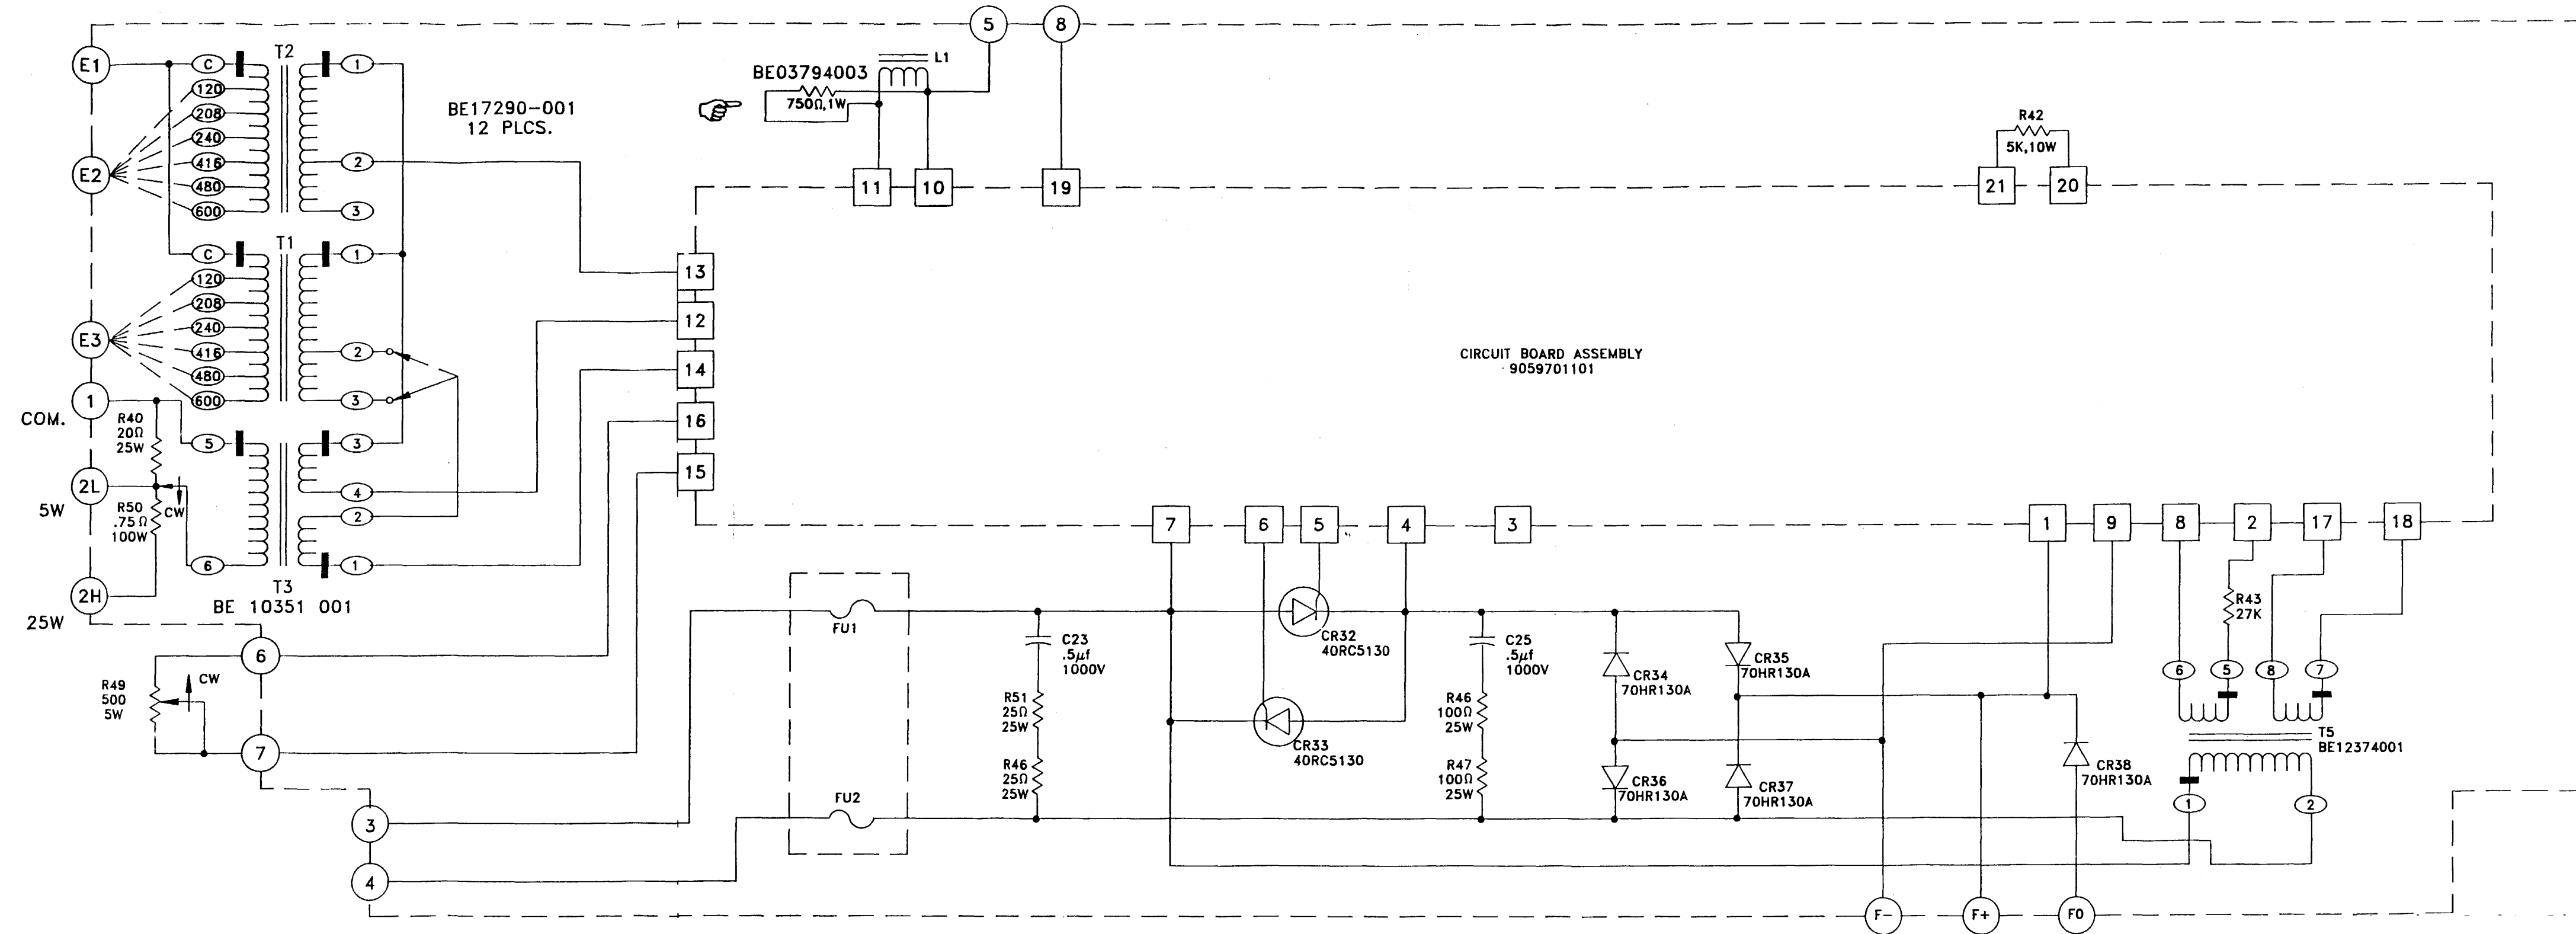
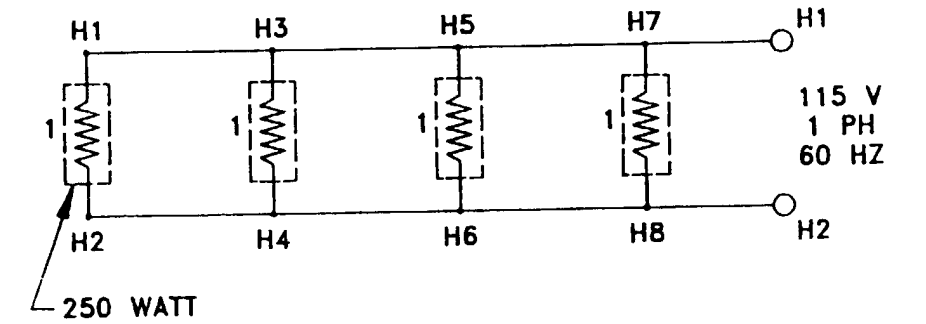

Figure 5-1 Voltage Regulator Schematic
Figure 5-3 PFC External Connection Schematic
5-1.2 Figure 5-1, Figure 5-2, and Figure 5-3 are schematic diagrams provided to assist in troubleshooting the PFC. Refer to Chapter 6 for repair procedures.
1.3 No voltage or improper voltage to input terminal 3 and 4 on voltage regulator.	1.3 Verify wiring; correct as required. Refer to Figure 5-1, Figure 5-2, Figure 5-3 and paragraph 6-3 and paragraph 6-6. (Organizational Level Function).
1.4 No connections to F+ and F- on the voltage regulator.	1.4 Verify wiring; correct as required. Refer to Figure 5-1, Figure 5-2, Figure 5-3 and paragraph 6-3 and paragraph 6-6. (Organizational Level Function).
2.2 Voltage regulator sensing connections set to wrong tap.	2.2 Connect to correct tap. Refer to Figure 5-1, Figure 5-2, Figure 5-3 and paragraph 6-3 and paragraph 6-6. (Organizational Level Function.)
2.3 Faulty voltage regulator printed circuit (PC) board.	2.3 Replace. Refer to Figure 5-1, Figure 5-2, Figure 5-3 and paragraph 5-2, paragraph 6-3 and paragraph 6-6. (Organizational Level Function.)
2.4 Voltage regulator silicon control rectifiers (SCR) faulty.	2.4 Replace SCRs or regulator. Refer to Figure 5-1, Figure 5-2, Figure 5-3 and paragraph 5-2, paragraph 6-3 and paragraph 6-6. (Organizational Level Function.)
2.5 Voltage regulator voltage range adjust (R14) set too high.	2.5 Refer to Figure 5-1, Figure 5-2, Figure 5-3 and paragraph 6-3 and paragraph 6-6. (Organizational Level Function.)
2.6 Voltage regulator adjust rheostat resistance too low.	2.6 Increase resistance. Refer to Figure 5-1, Figure 5-2, Figure 5-3 and paragraph 6-3 and paragraph 6-6. (Organizational Level Function.)
2.7 Improper connection of voltage regulator sensing leads to generator.	2.7 Verify wiring; correct as required. Refer to Figure 5-1, Figure 5-2, Figure 5-3 and paragraph 6-3 and paragraph 6-6. (Organizational Level Function.)
2.9 Defective voltage regulator.	2.9 Replace. Refer to Figure 5-1, Figure 5-2, Figure 5-3 and paragraph 5-2, paragraph 6-3 and paragraph 6-6. (Organizational Level Function.)
2.10 R14 set too low on voltage regulator.	2.10 Adjust. Refer to Figure 5-1, Figure 5-2, Figure 5-3 and paragraph 6-3 and paragraph 6-6. (Organizational Level Function.)
3.2 Output voltmeter at different location than regulator sensing (voltage drop in leads or wrong phase).	3.2 Connect voltmeter at same point as regulator sensing. Refer to Figure 5-1, Figure 5-2 and Figure 5-3. (Organizational Level Function.)
3.4 Parallel Compensation not disabled.	3.4 Refer to Figure 5-1, Figure 5-2, Figure 5-3 and paragraph 6-3 and paragraph 6-6. (Organizational Level Function.)
3.7 Faulty voltage regulator PC board.	3.7 Replace. Refer to Figure 5-1, Figure 5-2, Figure 5-3 and paragraph 5-2, paragraph 6-3 and paragraph 6-6. (Organizational Level Function.)
3.8 Faulty SCRs or diodes.	3.8 Replace SCRs and/or diodes or regulator. Refer to Figure 5-1, Figure 5-2, Figure 5-3 and paragraph 5-2, paragraph 6-3 and paragraph 6-6. (Organizational Level Function.)
4.2 Stability selection on voltage regulator not correct.	4.2 Change selection. Refer to Figure 5-1, Figure 5-2, Figure 5-3 and paragraph 6-3 and paragraph 6-6. (Organizational Level Function.)
4.3 Faulty voltage regulator PC board.	4.3 Replace. Refer to Figure 5-1, Figure 5-2, Figure 5-3 and paragraph 6-3 and paragraph 6-6. (Organizational Level Function.)
5.2 Stability selection on voltage regulator too slow.	5.2 Change selection. Refer to Figure 5-1, Figure 5-2, Figure 5-3 and paragraph 6-3 and paragraph 6-6. (Organizational Level Function.)
8.4 Short circuited stator winding or open rotor.	8.4 Check resistance between phases. Inspect squirrel cage for continuity. Refer to Figure 5-3. (Organizational Level Function.)
8.6 Unbalanced current.	8.6 Check terminal voltage and current at generator power supply. Refer to Figure 5-3. (Organizational Level Function.)
9.4 Wrong voltage.	9.4 Check terminal voltage with nameplate data. Refer to Figure 5-3. (Organizational Level Function.)
6-3.2 The voltage regulator normally needs no adjustments other than the following (refer to Figure 5-1 and Figure 5-2):